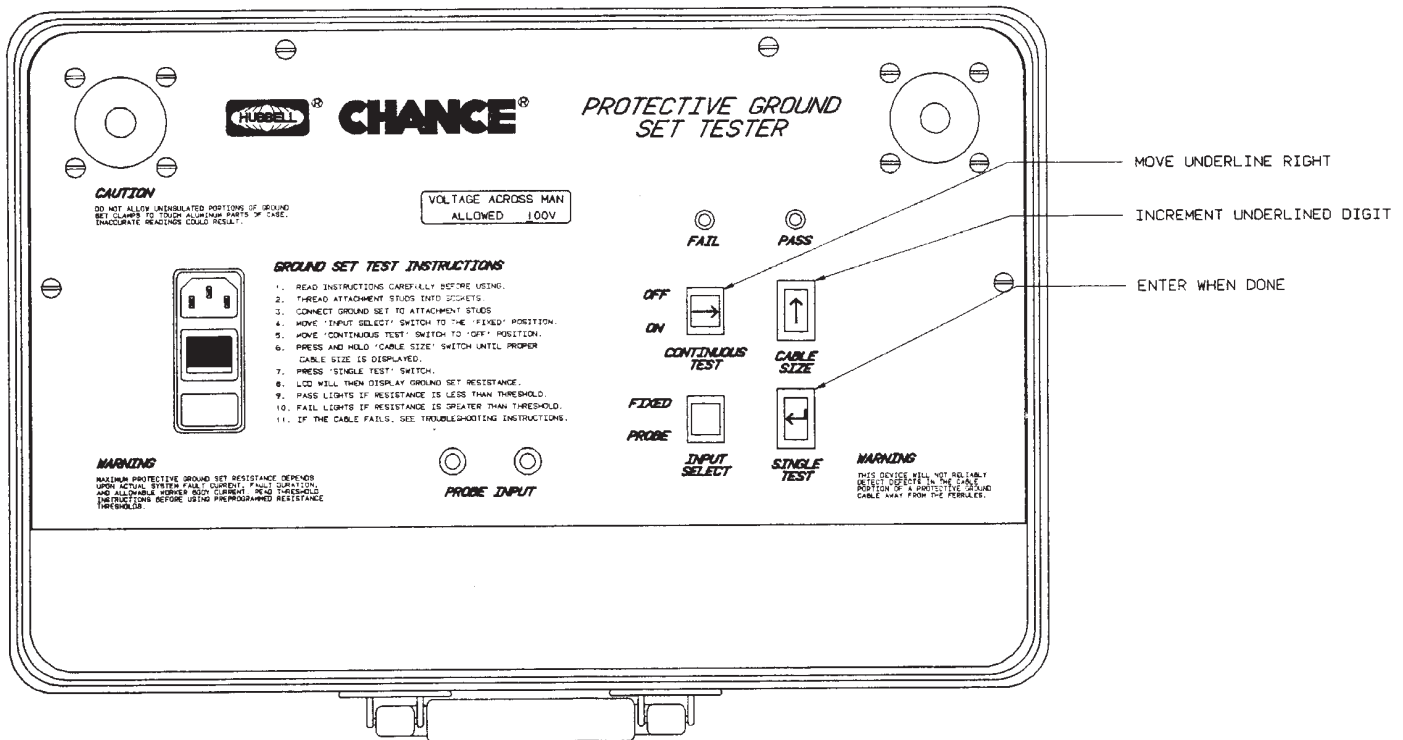

Figure 2: Template of Switches When Changing the Threshold
- 4) Refer to Figure 2. The voltage displayed on the second line will be the voltage across the man used to calculate the maximum values for the thresholds. This voltage can be adjusted using the 'CABLE SIZE' and the 'CONTINUOUS TEST' switches as described in 5 & 7.